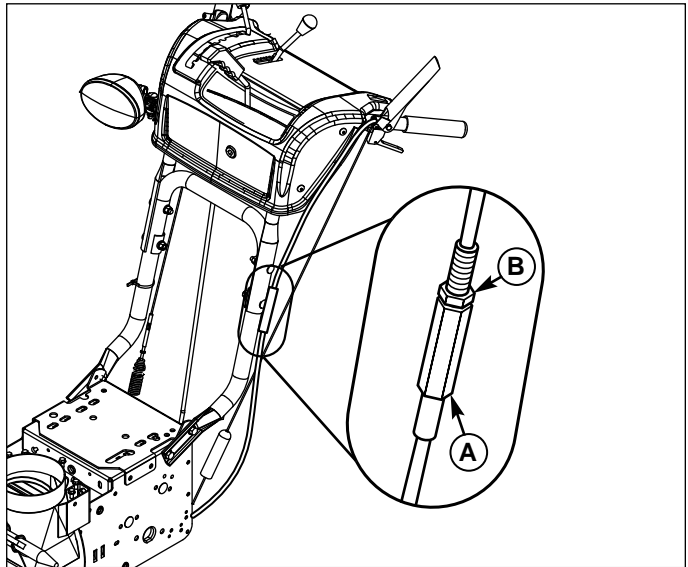

Figure 9. Easy Turn™ Cable Adjustment
2. Loosen the jam nut (B, Figure 9).
3. Turn the adjustment nut (A) to lengthen or shorten the cable. The cable should be tightened just until all slack is removed from the lever, however it must not engage the Easy Turn™ release without depressing the control lever.